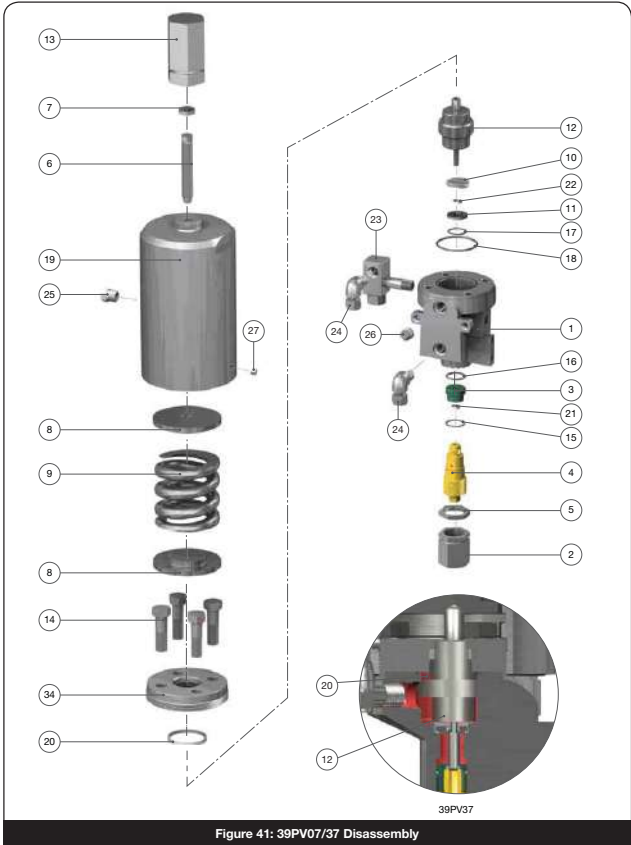
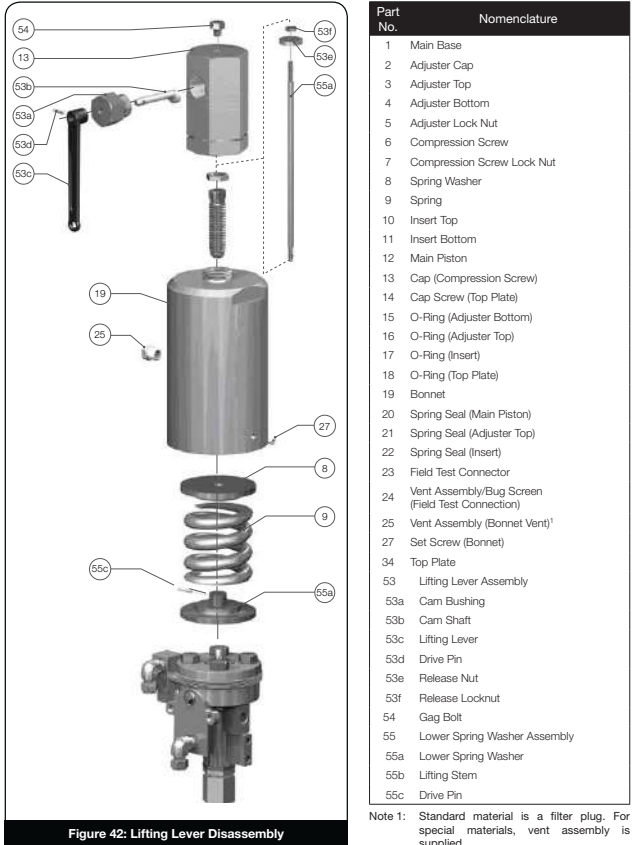
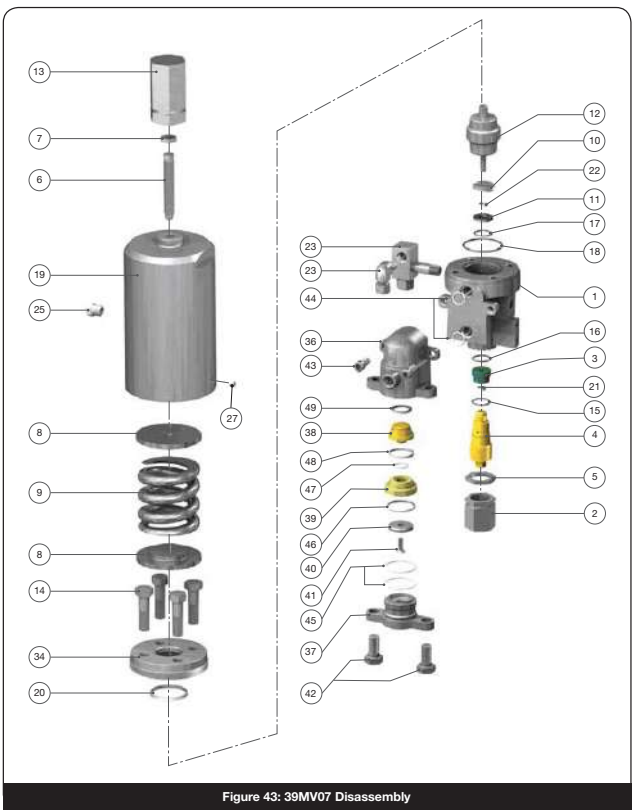

Figure 41: 39PV07/37 Disassembly
Figure 42: Lifting Lever Disassembly
Figure 43: 39MV07 Disassembly
Figures 41 and 42
3. If a lifting lever is installed, also use Figure 42 to remove the Lifting Lever assembly. Then return to Figure 41 to continue disassembly.
Figures 42 and 43
- If a lifting lever is installed, also use Figure 42 to remove the Lifting Lever assembly. Then return to Figure 43 to continue disassembly.